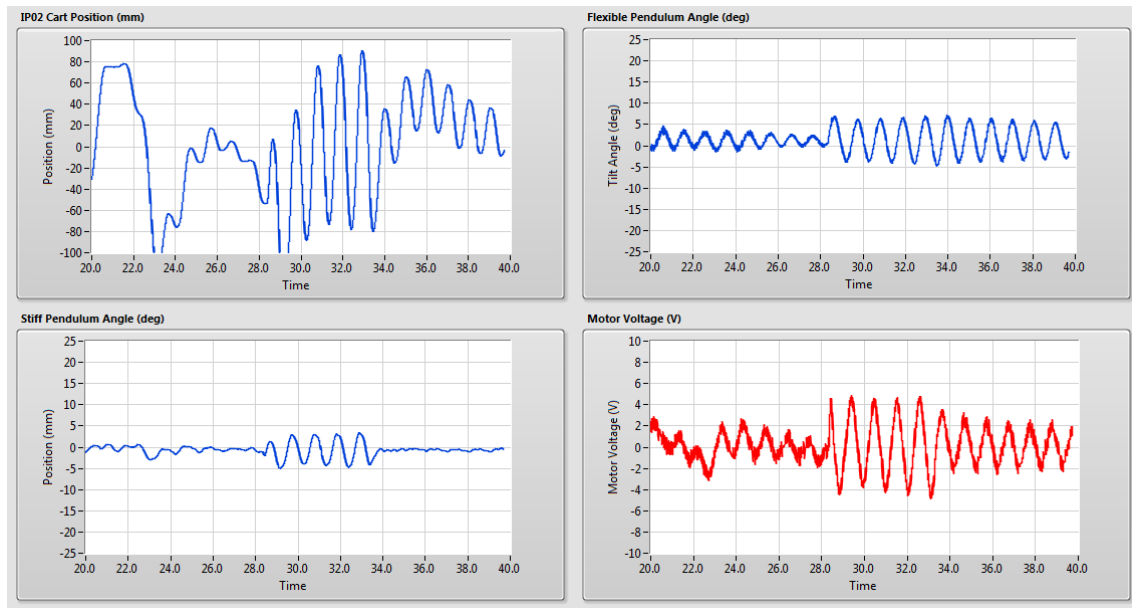

Figure 3.6: Typical partial-state feedback response when balancing the FLEXPEN system
6. Introduce a slight disturbance into the pendulums and observe the response of the system. The system should begin to oscillate with an increasing amplitude as shown in Figure 3.6.
8. Observe the response of the system once *full-state* feedback is re-engaged (shown in Figure 3.6 at 34 seconds).